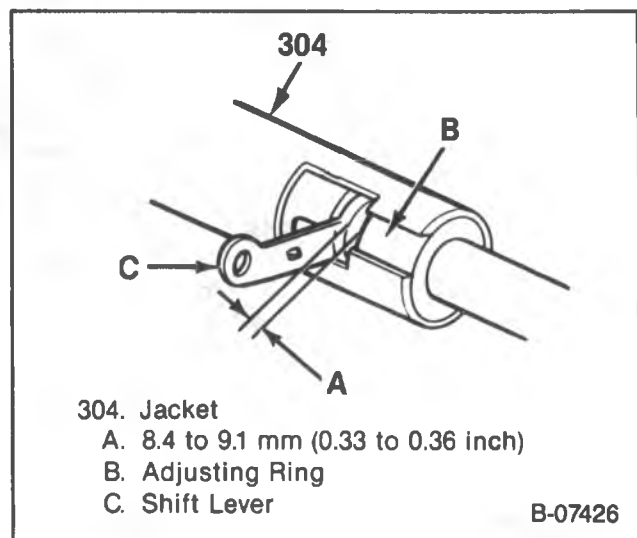

Figure 52 — Shift Tube Adjustment — Automatic Transmission
2. Loosen the adjusting ring bolt (306).
3. Rotate the shift tube adjusting ring to obtain a 8.4 to 9.1 mm (0.33 to 0.36-inch) clearance between the shift tube lever and adjusting ring (figure 52).